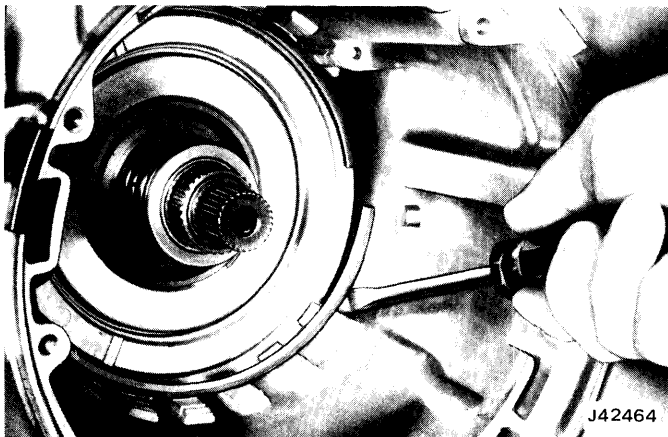

Fig. 7-35 Removing Center Support Snap Ring
- (1) Remove center support to case snap ring (fig. 7-35).
- (2) Remove center support and gear unit from